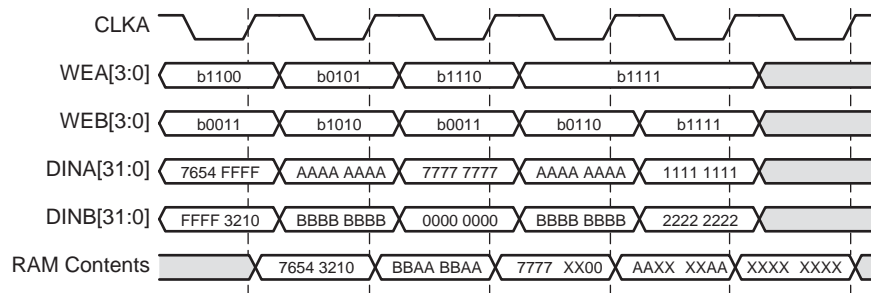

Figure 32: Write-Write Collision Example
- **Using Byte-Writes.** When using byte-writes, memory contents are not corrupted when separate bytes are written in the same data word. RAM contents are corrupted only when both ports attempt to Write the same byte. Figure 32 illustrates this case. Assume  $ADDRA = ADDR_B = 0$ .